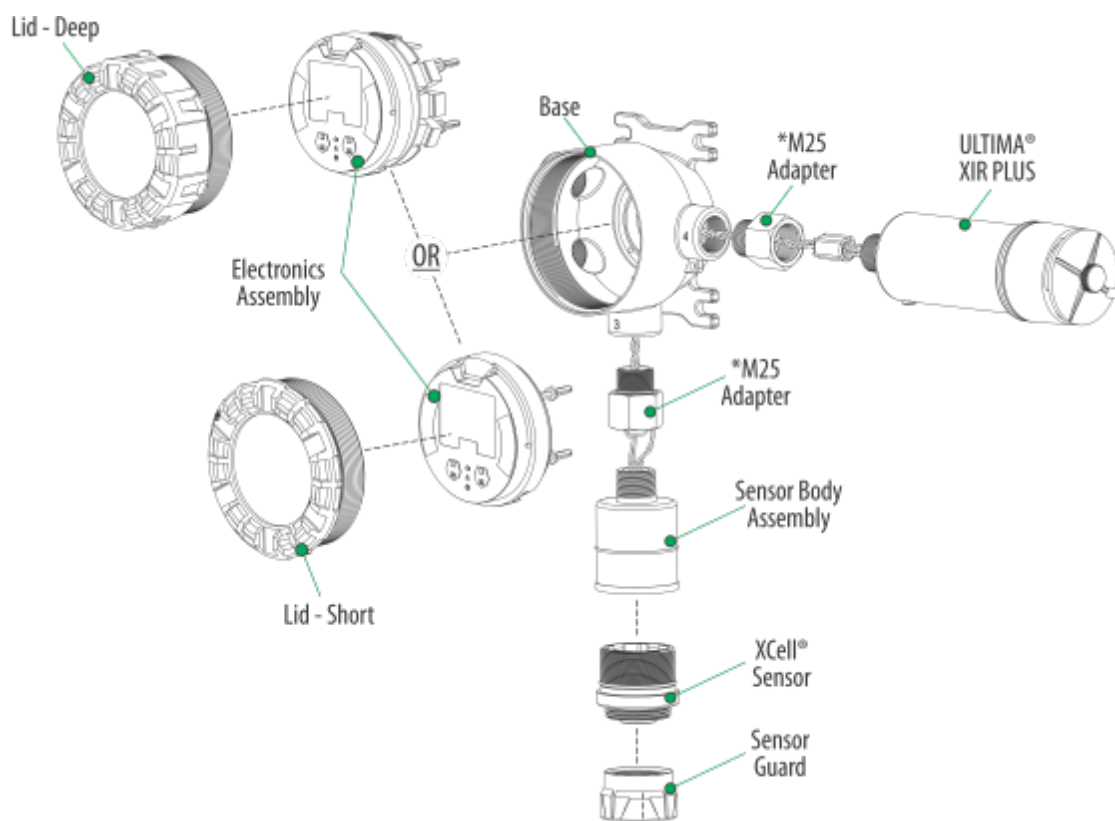

Figure 3 Component Overview
- Follow the warnings below when removing or replacing sensors. Reference Figure 3 for component overview.